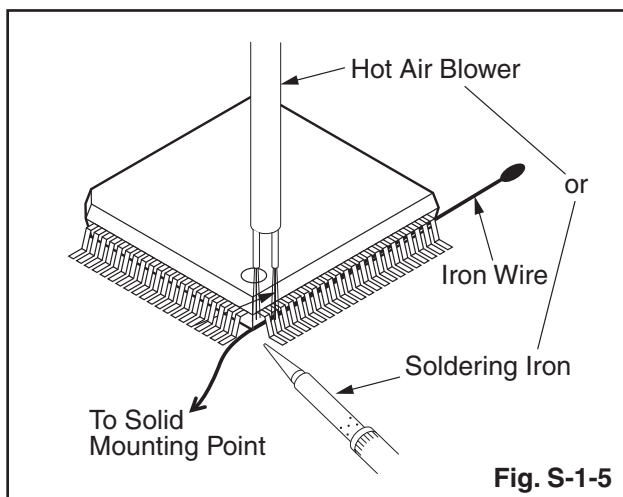

Fig. S-1-5
2. Affix the wire to a workbench or solid mounting point, as shown in Fig. S-1-5.
3. While heating the pins using a fine tip soldering iron or hot air blower, pull up the wire as the solder melts so as to lift the IC leads from the CBA contact pads as shown in Fig. S-1-5.